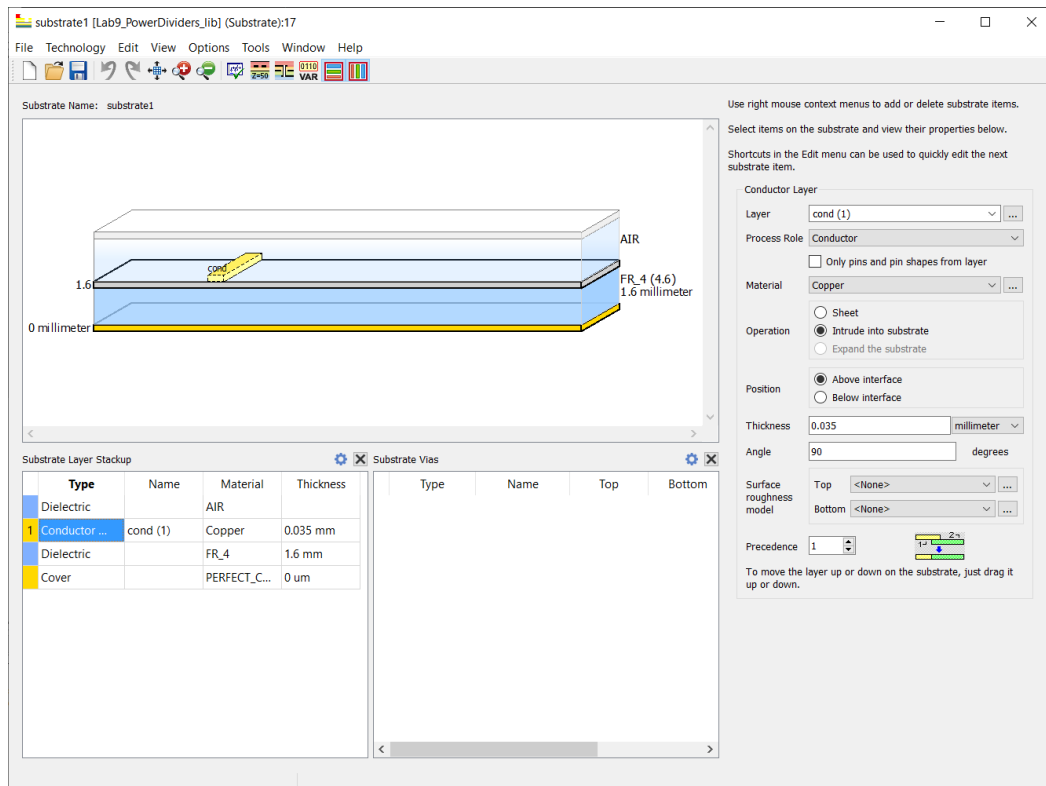

Figure 6. Substrate Editor showing the properties for the conductor
- a. Unlike in previous labs, the thickness of the conductor is important to the simulation. Therefore, under the conductor settings in the Substrate Editor, change the **operation** to **Intrude into Substrate**. This is shown in Figure 6.